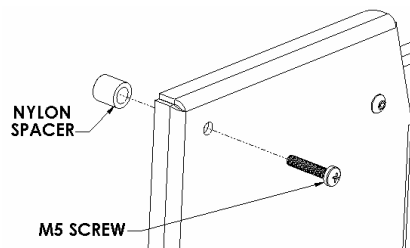
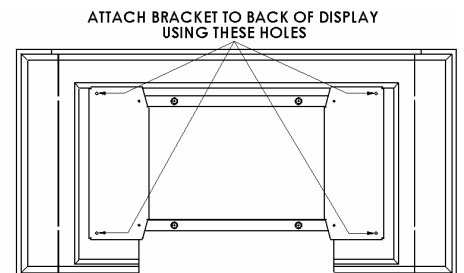

Figure 6
Figure 7
3. Place Nylon spacers over mounting holes on back of screen. Attach mounting brackets to display using the M5 screws (see Figure 6 & Figure 7).